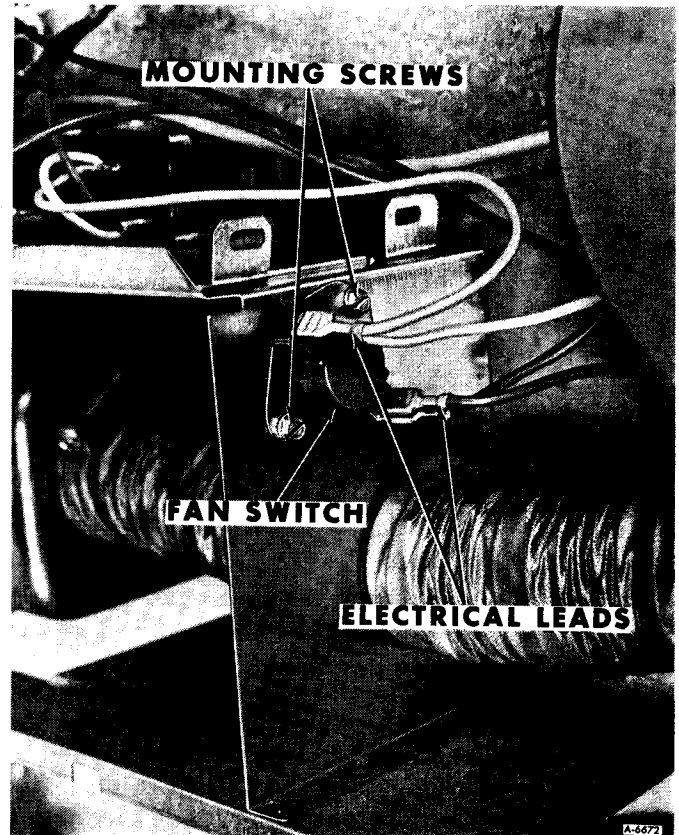

Figure 13—Fan Switch Installed
3. Disconnect electrical leads from fan switch (figure 13).
1. Locate fan switch on warm air housing (figure 13). Retain switch in position with two mounting screws.